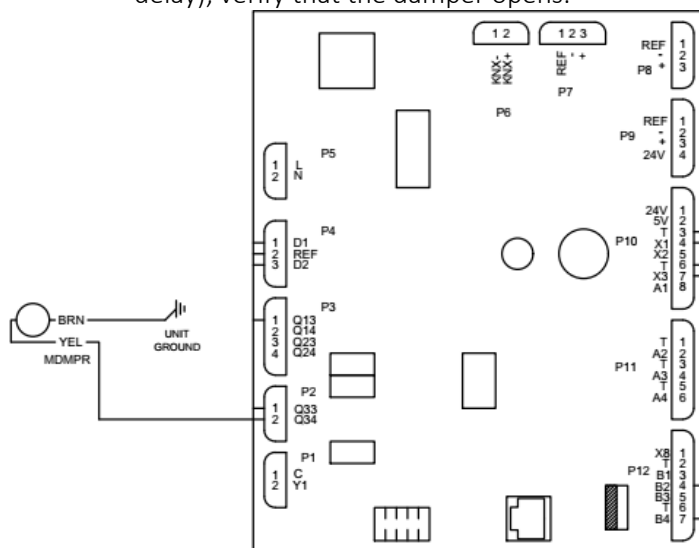

Figure 24 - Outside Air Damper Connection
2. Attach 24V lead to Q34 (See **FIGURE 24 - Outside Air Damper Connection**) on the ERV control board.